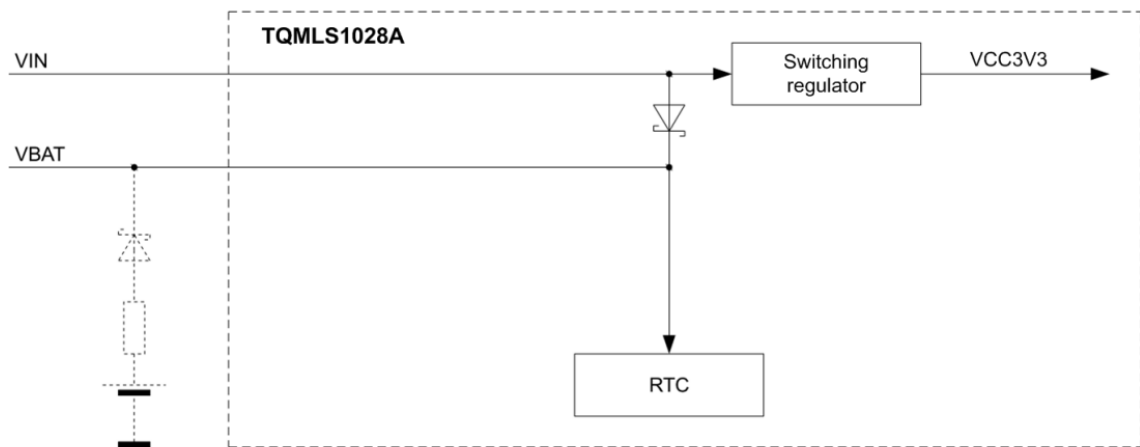

Figure 11: Block diagram RTC buffering
- The RTC is powered via VIN, battery buffering is possible (battery on carrier board, see Figure 11).